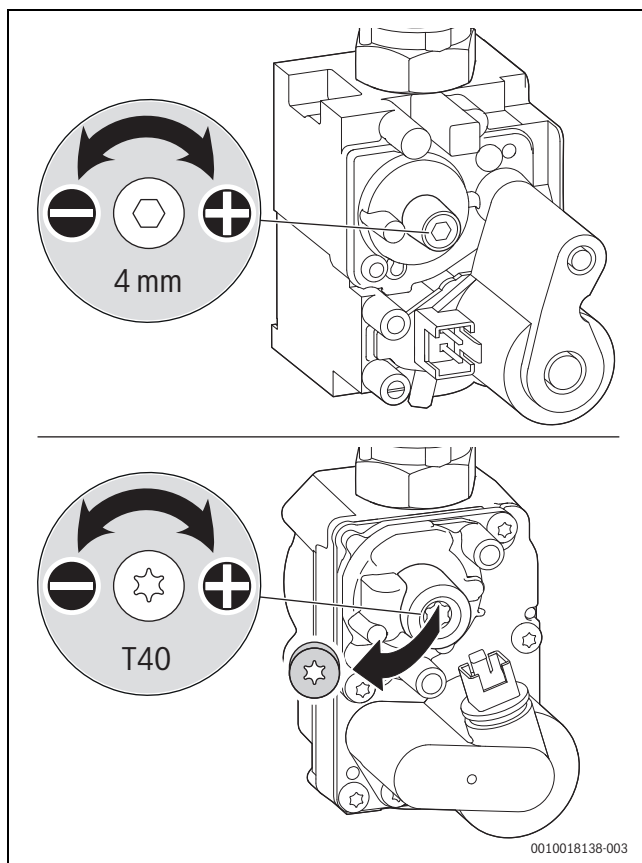

Fig. 99 Setting the CO2 or O2 content (above: SIT valve, below: Honeywell valve)
- ▶ Remove the seal from the adjusting screw of the air/gas ratio control valve (only air/gas ratio control valve is shown in the below Fig. 99) and set the CO2 or O2 content for minimum rated output.